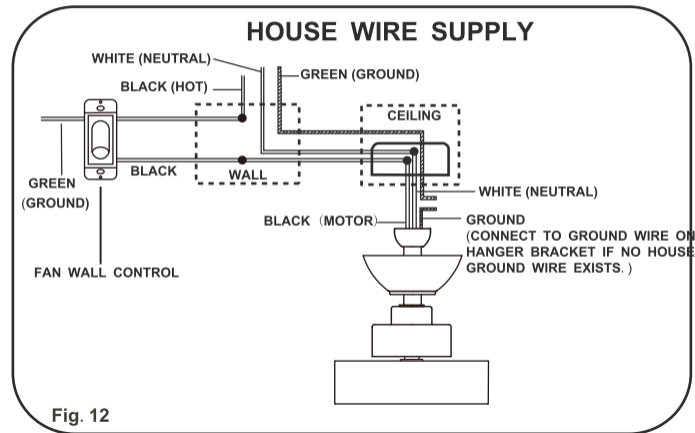

Fig. 12
**Step 3.** Make wire connections (Fig. 12) and secure with wire nuts supplied.